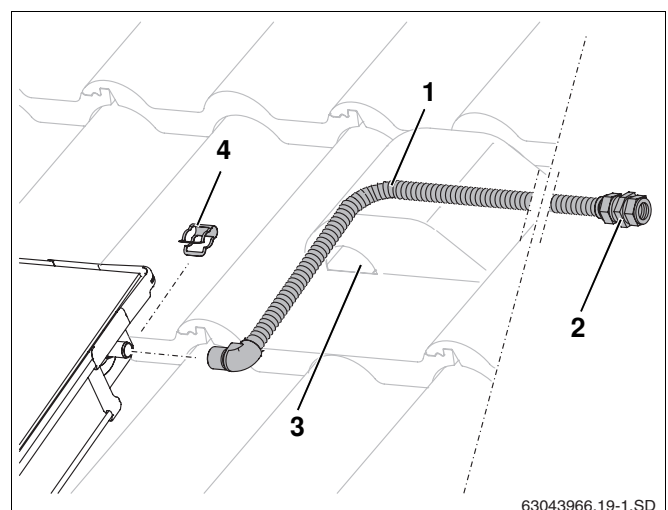

Fig. 53 Fitting flow line (with no vent at highest point in the system)
- Push connection pipe (1.000 mm, Fig. 53, **Item 1**) onto the flow connection on the collector array and fix in place using bracket (Fig. 53, **Item 4**).
- Feed connection pipe together with the sensor cable through the ventilation tile (Fig. 53, **Item 3**) and through the roof insulation.
- Connect header pipe to the compression fitting (Fig. 53, **Item 2**).